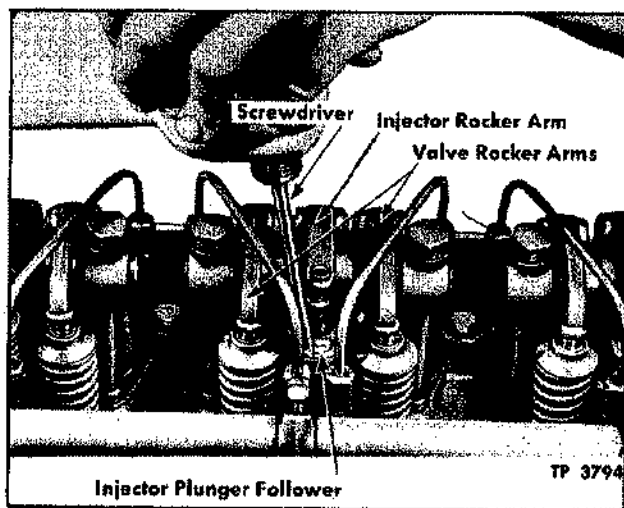

Figure 1—Cutting Out an Injector
4. Hold the No. 1 injector follower down with a screwdriver (fig. 1), thus preventing operation of the injector.